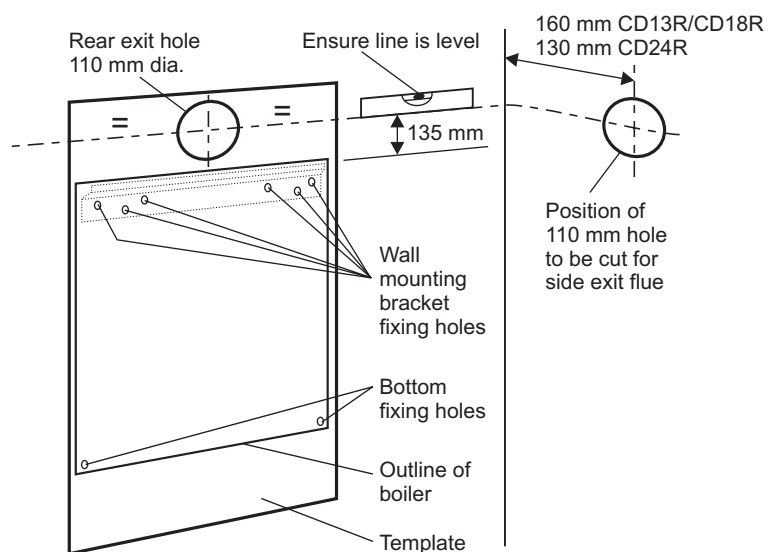

Fig. 4.2
4.3 PREPARE THE WALL - Figs. 4.2 and 4.3
4.4 FIT THE BOILER - Refer to Fig. 4.2